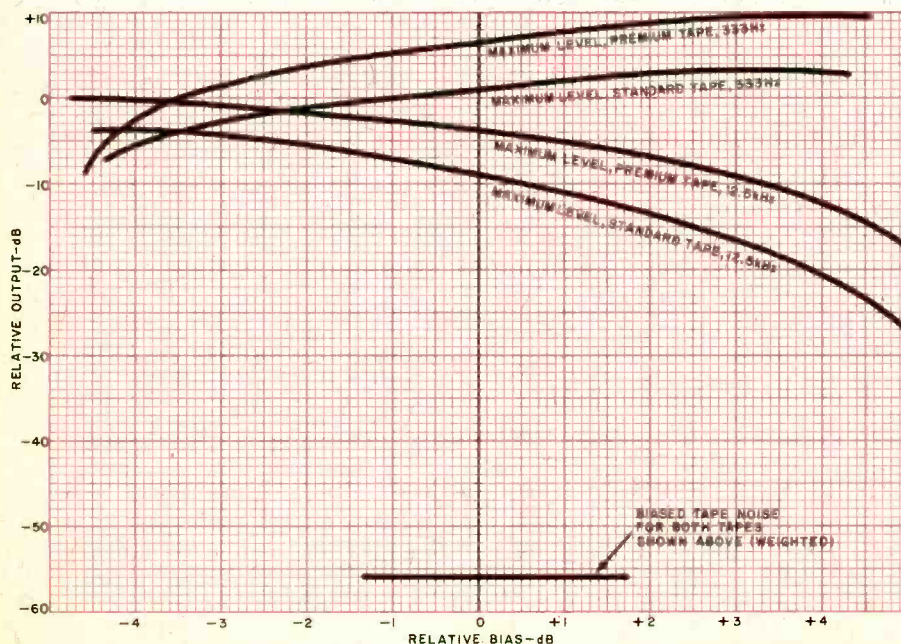

Fig. 10. Maximum output levels and biased tape noise for two types of tape.
**Maximum modulation level** is the recorded output level of a given tape that exhibits 3% third-order harmonic distortion. It is sometimes plotted as a function of bias level. In Fig. 10, are plotted the maximum output levels of two different tapes that have widely differing maximum output-level characteristics. The frequency used for maximum output lev-
**Biased tape noise** is also often specified by tape makers. This is the level of residual tape noise (referred to a specific reference level) when it has been recorded with bias signal only and with the bias signal weighted or modified by the use of a standard noise-weighting network. The biased tape-noise level for the two tapes tested in connection with maximum output level is also shown in Fig. 10. The difference between the noise